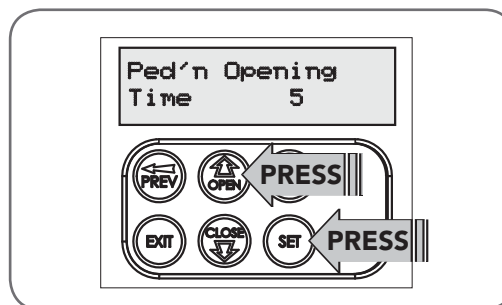

Fig 12.2
- Press OPEN to change the pedestrian access position time (**Fig. 12.2**).